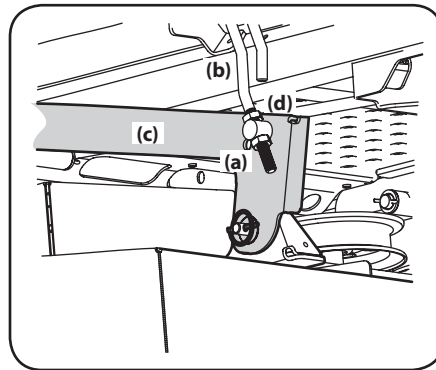

Figure 4-8
3. Loosen the lower nut (a) on the adjustable lift link (b) attached to the deck lift arm (c) to lower the deck and tighten the upper nut (d) to secure the deck in place, loosen the upper nut (d) then tighten the lower nut (a) to secure the deck in place. See Figure 4-8.